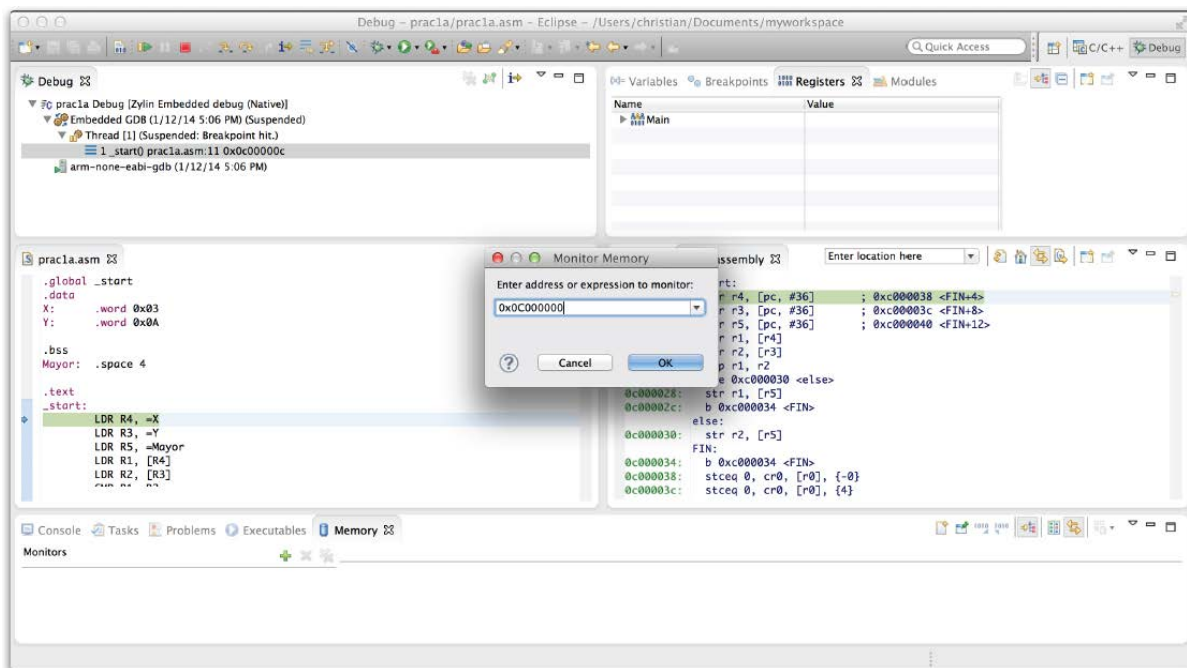
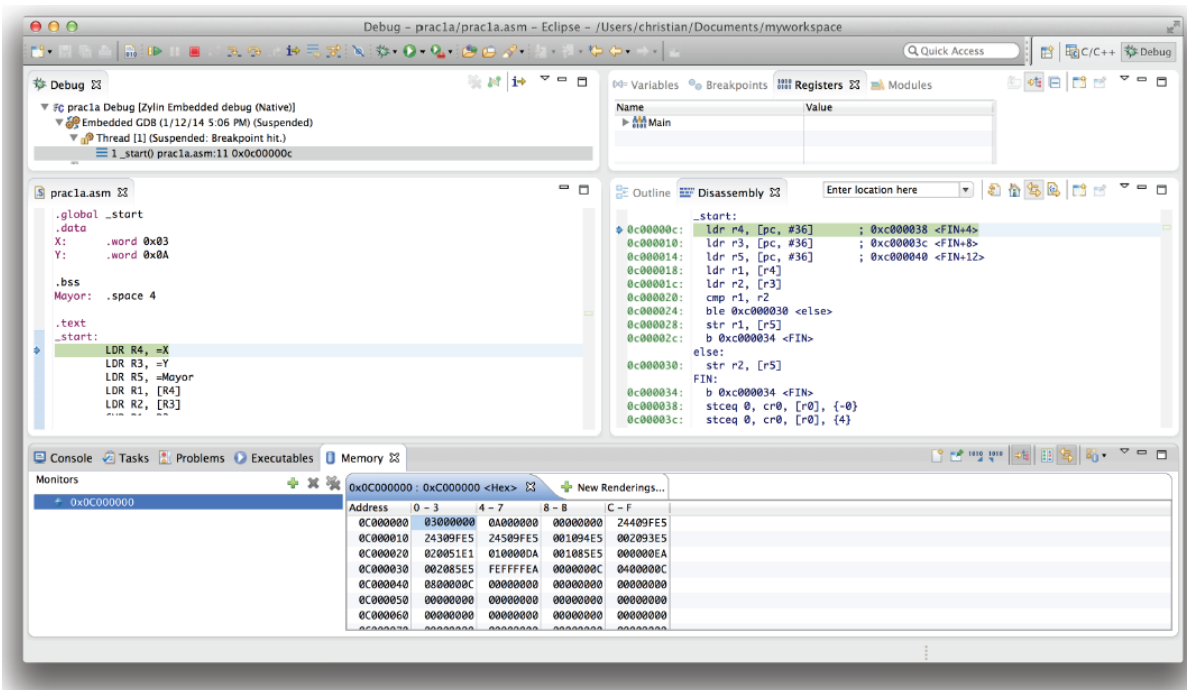

Figure 1.18 Specifying an address for the memory monitor.
Figure 1.19 Memory contents displayed by the memory monitor (from address 0x0C000000).
4. Before simulating our code we will open a memory viewer to check the value of our variables. To do this, we must first open the Memory tab in the lower panel, if it is not already open (Window→ Show View → Memory). We must select this tab and add a new viewer by clicking on the icon . A window similar to Figure 1.18 will open, where we will write the address from which we want to monitor the memory. If we write the download address, 0x0C000000 (where we have placed the section .data, followed by the sections .bss and .text), then the aspect of the resulting window should be similar Figure 1.19.